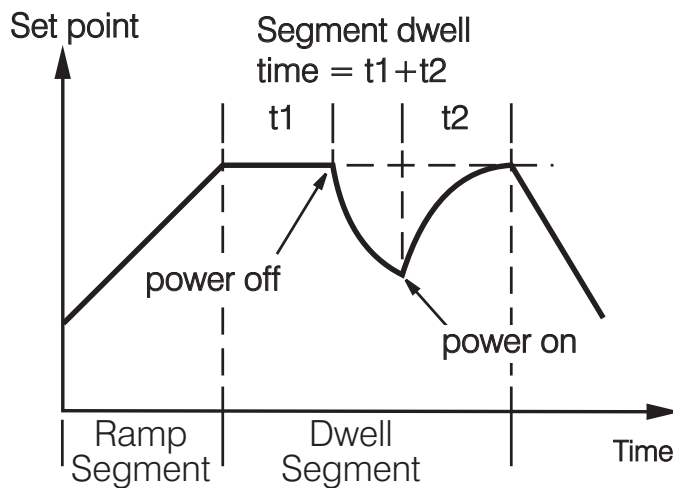
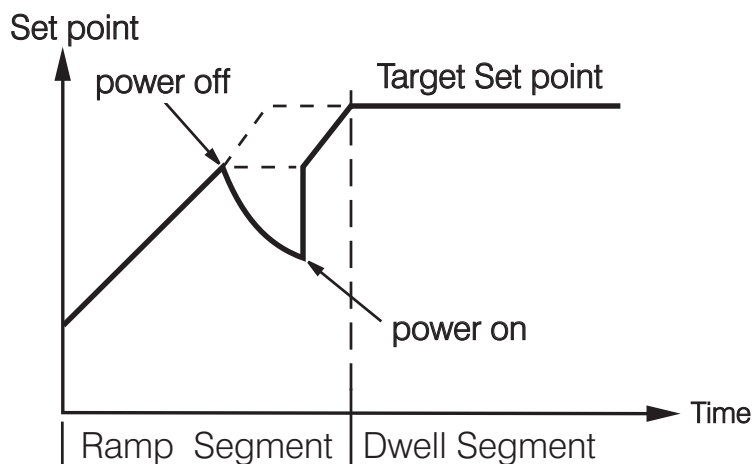

Figure 4.3 Recovery from profile at dwell segment
Figure 4.4 Recovery from profile at ramp segment
If power is lost and then restored, while a profile is running, the behavior of the profile is determined by the setting of the parameter " PFR " power fail recovery in profile configuration. This can have one of 5 settings - *cont* , *pu* , *spi* and *off* . If *cont* is selected, then when power is restored the profile continues from where it was interrupted when power was lost. The parameters such as set point value (SV), time remaining (TIME) and cycle remaining (CYCL) will be restored to their power-down values. For application that need to bring the process value to the set point value as soon as possible, this is the best choice. The two diagrams below illustrate the respective responses, Fig. 4.3 if power fails during a dwell segment and Fig. 4.4 if it fails during a ramp segment.